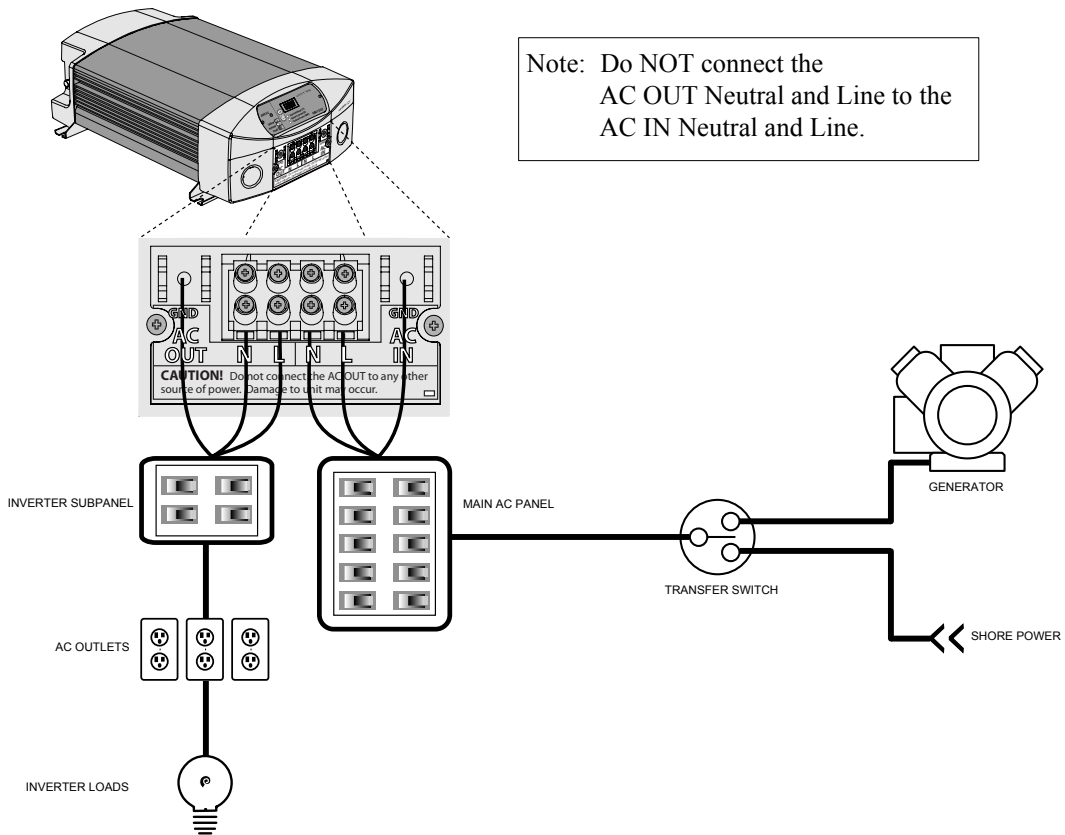
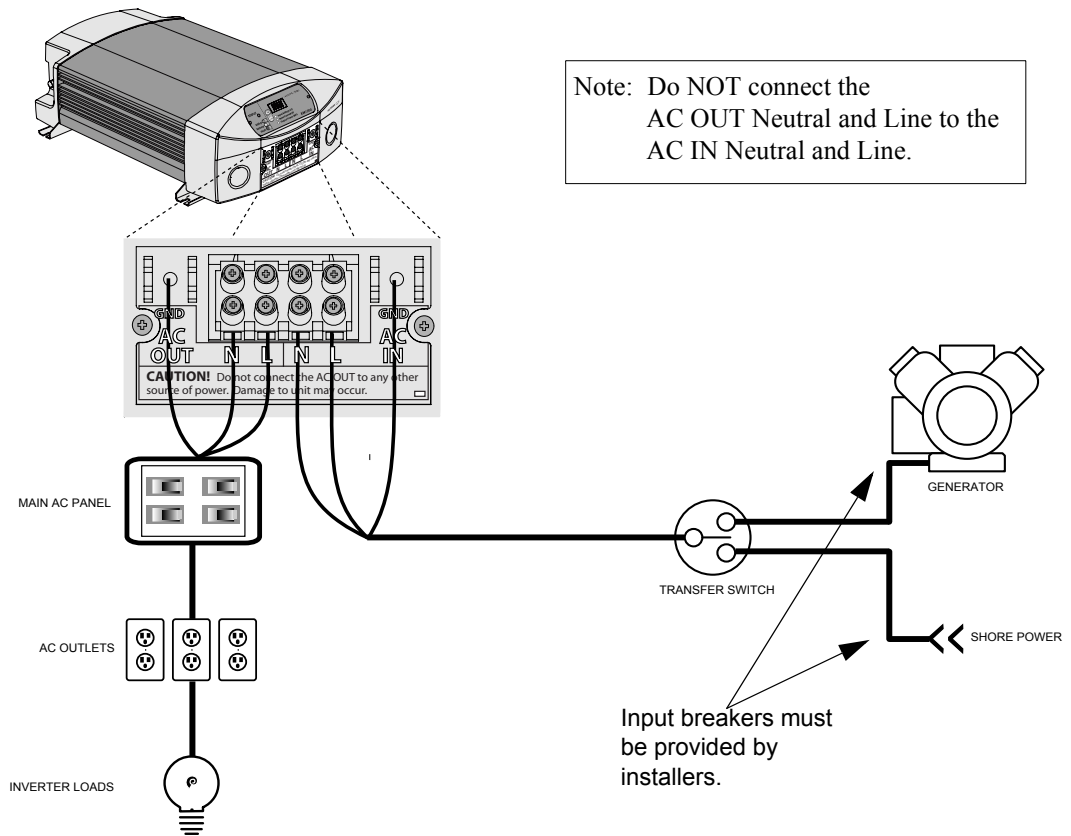

Figure 3-6 AC Wiring Diagram with an Inverter Subpanel
Figure 3-7 AC Wiring Diagram without an Inverter Subpanel
1. Install the required circuit breaker in the AC output panel supplying the unit (See Figure 3-6 on page 3–20).
1. Install the required circuit breaker in the AC load panel (see Figure 3-6 on page 3–20 and Figure 3-7 on page 3–21).